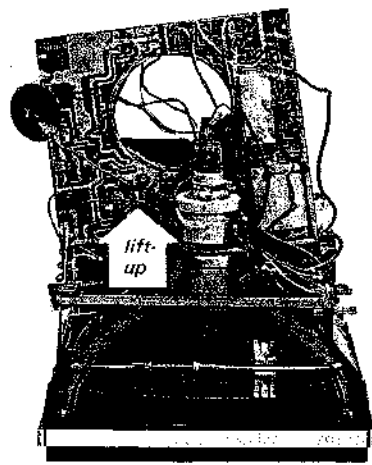

Fig. 2-7.
5. Lift up the BF circuit board carefully as shown in Fig. 2-7.